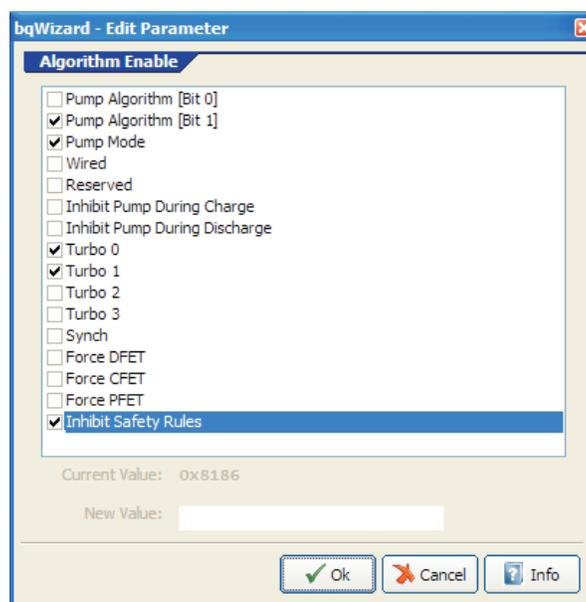

Figure 25. Enabling Charge and Discharge FETs
2. Double-click the Algorithm Enable line with the mouse. A secondary window opens. (Figure 25)
3. Uncheck the Inhibit Safety Rules box, and click OK. (Figure 25)